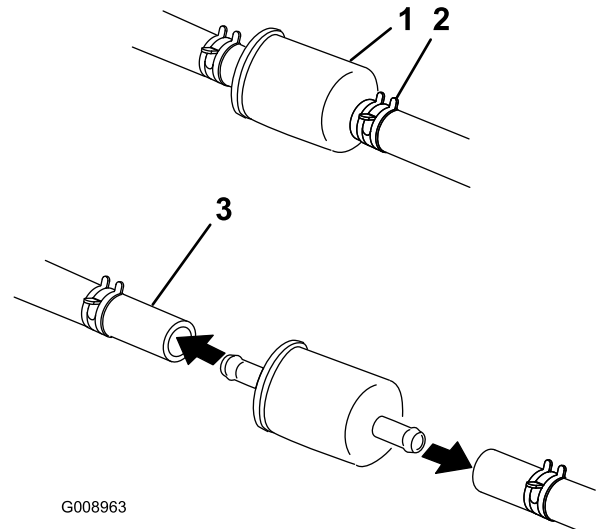

Figure 47
5. Close the fuel shutoff valve behind the seat (Figure 47).
6. Squeeze the ends of the hose clamps together and slide them away from the filter (Figure 47).
8. Install a new filter and move the hose clamps close to the filter (Figure 47).